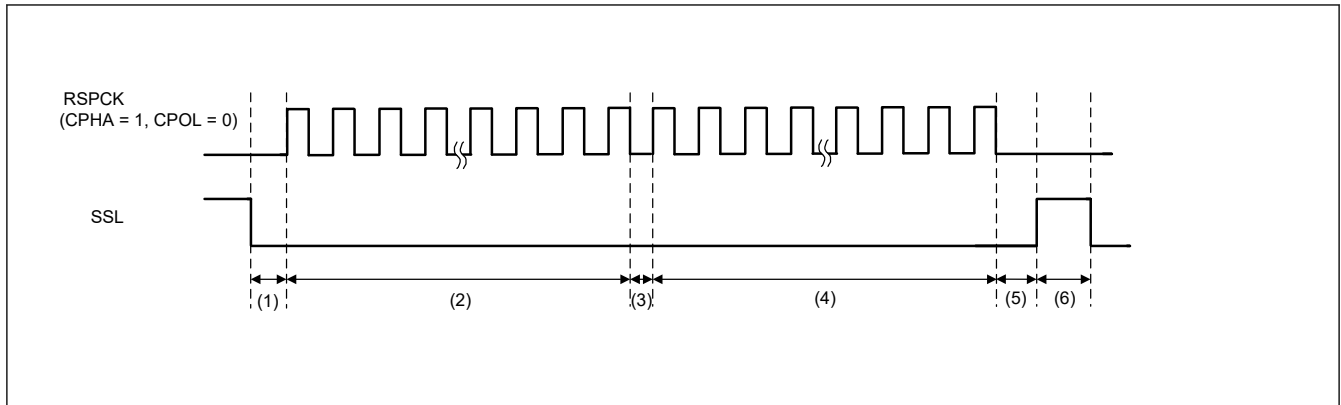

Figure 30.47 Example of Burst Transfer Operation Using SSLKP Bit (BFDS = 1)
Figure 30.47 shows an example of SSL signal operation when burst transfer is achieved by using the settings of SPCMD0 and SPCMD1. The following describes SPI operations of (1) to (6) shown in Figure 30.47. The SSL output signal polarity depends on the set SPI slave select polarity register (SSLP) value.